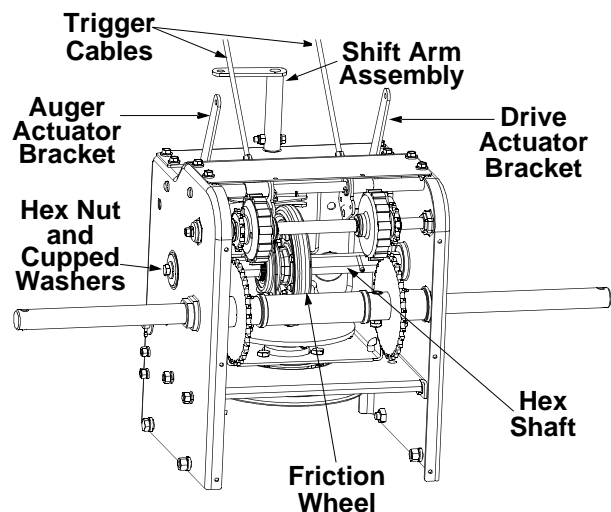

Figure 15 Viewed from the underside of snow thrower
Oil or spray lubricant into bearings at wheels at least once a season. Remove wheels, clean and coat axles with a multi-purpose automotive grease. See Figure 15.
Lubricate the hex shaft with a good all-weather multi-purpose light grease at least once a season or after every 25 hours of operation (available from an authorized service dealer or an automotive store.) See Figure 15.
5. Using a 7/8" wrench hold the hex shaft and remove the hex nut and cupped washer and bearing from left side of the frame. See Figure 15. Hold the friction wheel assembly, and slide the hex shaft out of the unit toward the right hand side.